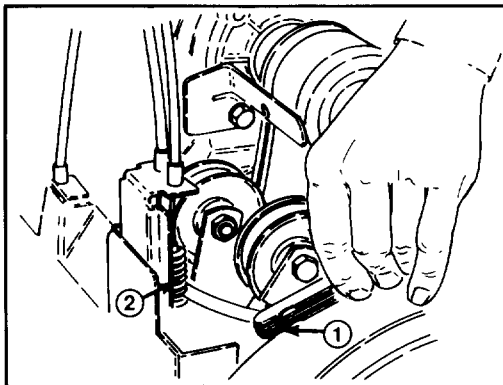

Figure 21
2. CHECKING IMPELLER CABLE ADJUSTMENT — With the engine off, depress the impeller lever on the right handgrip. Hold the lever and insert a .010" (.25mm) feeler gauge between the coil in the center of the spring (Fig. 21). Adjust the cable to achieve .009"-.012" (.23mm-.3 mm) gap between the coils.